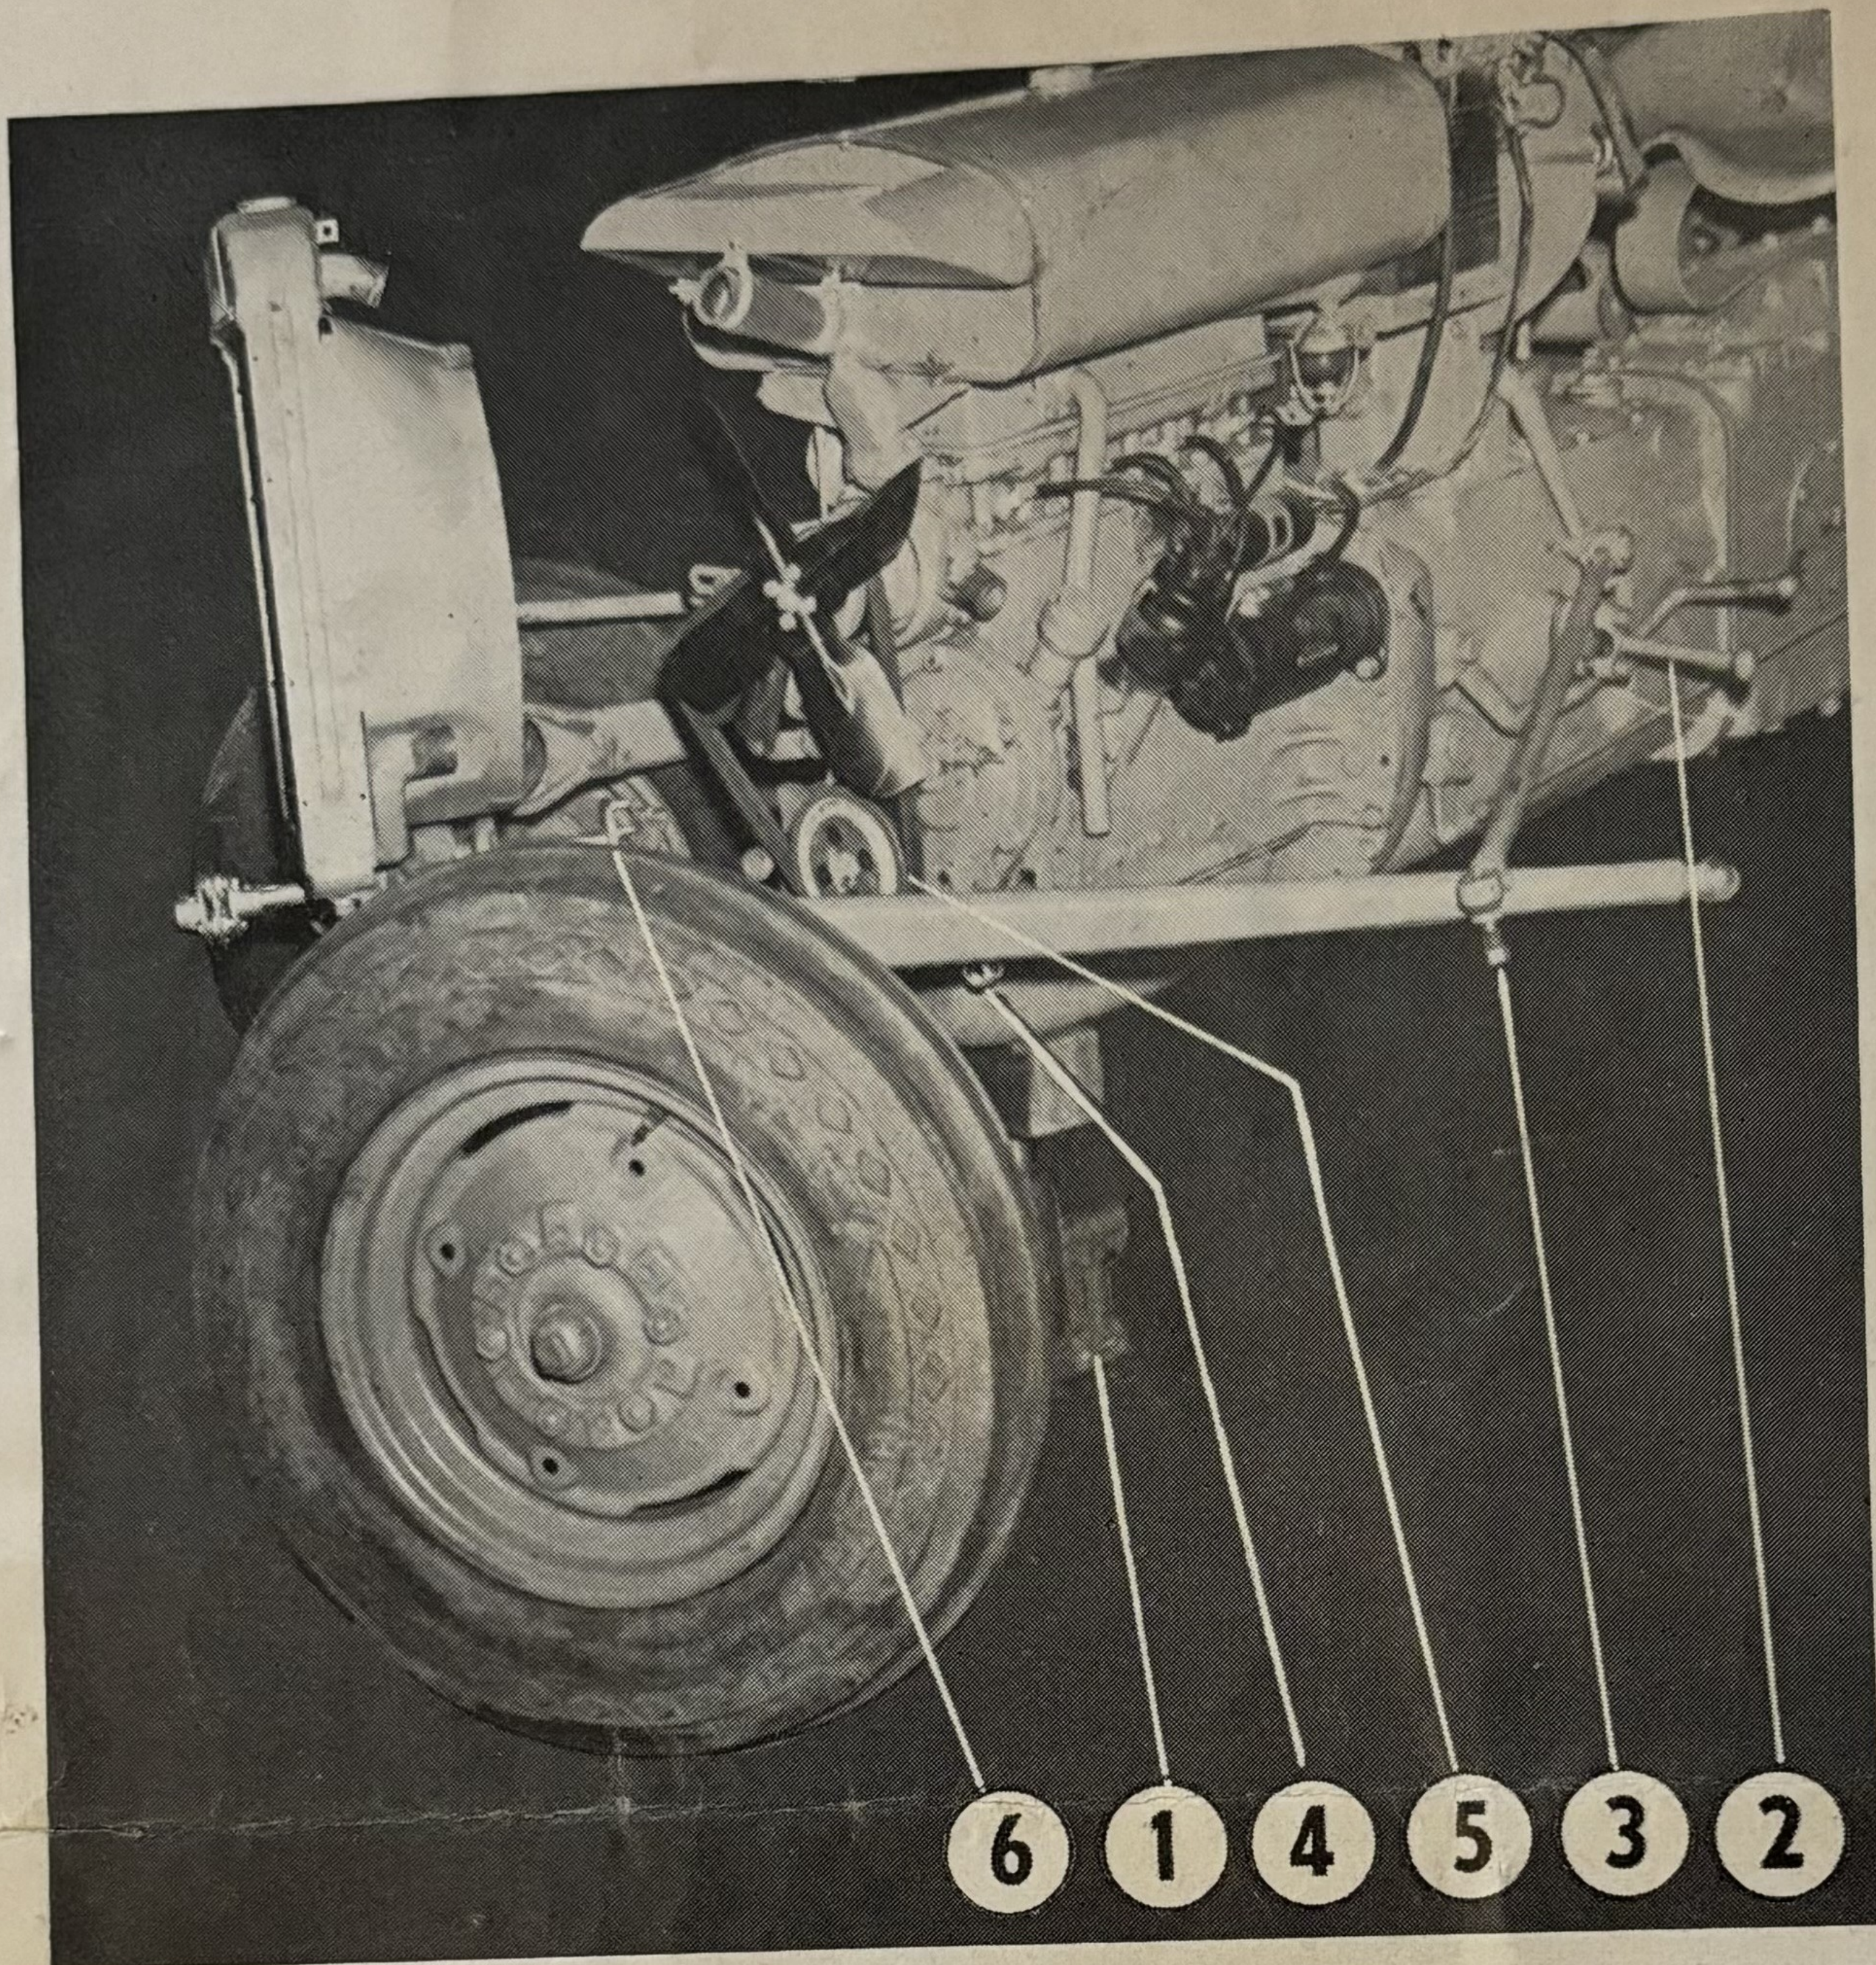

FIGURE 1
1. Enlarge crank access hole to 1" by machining or other method (1).
2. Remove trunion tube bolt (2) and spot welded nuts on each side of trunion housing. Locate front hanger bracket (10). CAUTION — Be sure it is perfectly level and on the same plane with top of trunion housing.
3. Center punch and drill two  $1\frac{7}{32}$ " holes. Secure with two  $\frac{1}{2}$ " x  $1\frac{1}{4}$ " N.F. Hex Hd cap screws, nuts, and lock washers (12). Center hole, use trunion tube bolt furnished with tractor (2). On R/L side, use original hood panel bolts (3).
4. FORD TRACTOR use step washer in center hole (13).
5. Reassemble. Follow steps in reverse (Fig. 1).
6. FERGUSON TRACTORS TO 20 and 30 ONLY. Install stabilizer hanger brackets R/L (4 and 5). Use two  $\frac{5}{8}$ " x 4" N.F. Hex Hd cap screws, nuts and lock washers (14) on right side of trunion housing and crankcase. Left side, use bolts removed from right hand side, size  $\frac{5}{8}$ " x  $3\frac{1}{2}$ " N.F. Hex Hd cap screws, nuts and lock washers.
7. FERGUSON TRACTORS TO 20 and 30 ONLY. Install stabilizer brackets (6) with four  $\frac{1}{2}$ " x  $1\frac{1}{4}$ " N.F. Hex Hd cap screws, nuts, and lock washers furnished (8).
8. FORD TRACTORS ONLY. Install stabilizer bracket (9) to trunion housing and crankcase using same bolts furnished with tractor. Install other end to front hanger bracket (10) with two  $\frac{1}{2}$ " x  $1\frac{1}{4}$ " N.F. Hex Hd cap screws, nuts, and lock washers furnished (7).
9. FERGUSON TEA 20-85. Install stabilizer bracket (11). Follow procedure as in Step 8.
1. Install hood latches one on each side (1). Locate and drill corresponding holes before disassembling hood and panel sections.
2. Drill two  $\frac{7}{32}$ " holes (3) on each side of hood panel flange holding dimensions shown (3).